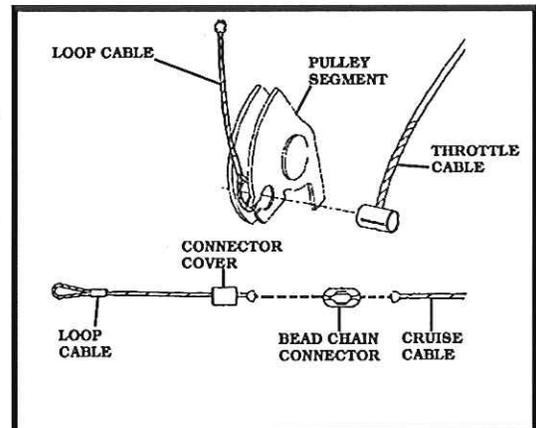

Figure 9
3. Hold the **LOOP CABLE** between the holes in each side of the pulley. Slide the barrel at the end of the throttle cable through the slotted hole, then through the **LOOP CABLE** and into the second hole. *Figure 9*